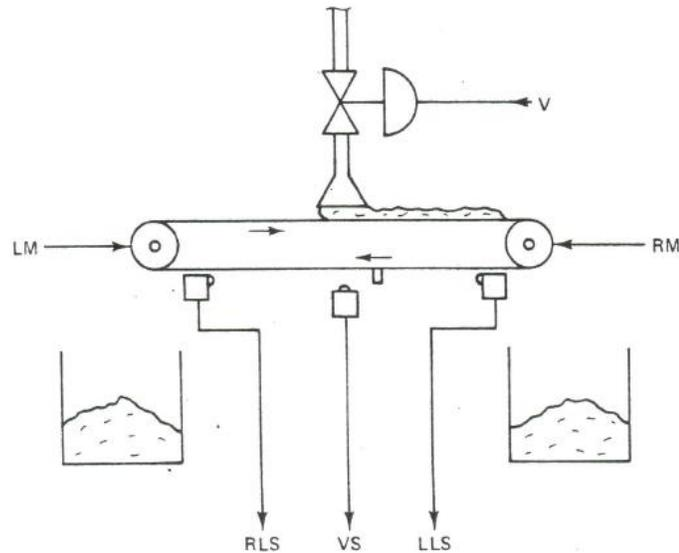

Figure 3
Q4- The system shown in figure 3 moves material into right & left bin using right motor (RM) & left motor (LM). Suggest a sensor to calculate the motor speed. The sequence of the process is as following:
3. The labor should add chemical catalyst , then press the continue push button (VS)